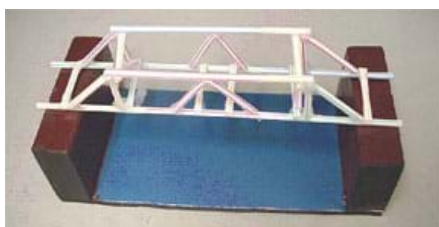

Figure 8. Example straw bridge design (Howe-Kingpost) placed on the wooden support structure for strength testing.
4. Before strength testing the bridges, ask each team: Predict how much weight you think will make your bridge collapse. Record predictions on the board. Place each bridge on the wooden support structure (see Figure 8). Position a small paper cup on the bridge at the center of the span; do not place the cup at any other location. Gradually fill the cup with pennies until the bridge collapses or the cup falls off (see Figure 9). Weigh the cup and the pennies on the balance. Make a note of this weight, and record it on the board next to its prediction. Repeat to test all bridges. Note, it may be helpful to add a lot of pennies quickly at first until it appears that the bridge is beginning to fail. At that point, add fewer pennies at a time, more carefully and slowly. The winning bridge design is the one that supports the most weight, while meeting the design criteria and constraints.